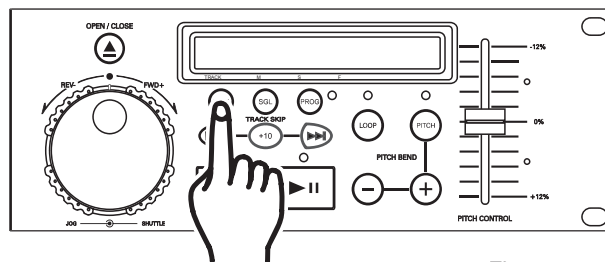

Figure 11
The time may be displayed in three different modes; Elapsed and Remain. During normal playback, pressing the *TIME BUTTON* (3) as in figure 11, will change the time display information (30, 31, 32, & 33) in the LCD. The following is a break down of the time settings and their definitions:
1) *ELAPSED* (34) - This details the time in the *LCD* (30, 31, & 32) as the current tracks' elapsed running time. The elapsed function only details a tracks elapsed time and not the entire disc.
2) *REMAIN* (37) - This details the time in the *LCD* (30, 31, & 32) as the current tracks' remaining running time.
*TIME BAR INDICATOR* - The time bar in the *LCD* visually details the time defined in the *TIME METER* (30, 31, & 32). This bar is also dependent on the selected time function; *REMAIN* (37) or *ELAPSE* (34). This bar will begin to flash when 15 seconds of a track remain and will begin to rapidly flash when three seconds of a track remain. The flashing bar is a great visual reminder a track is about to end. The flashing bar will function regardless of which time mode the unit is in.